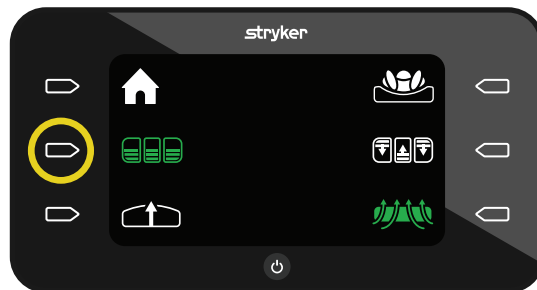

Figure 28 – Static mode off
2. To start the static mode, press the **Action** button next to **Static Mode** icon (Figure 28).